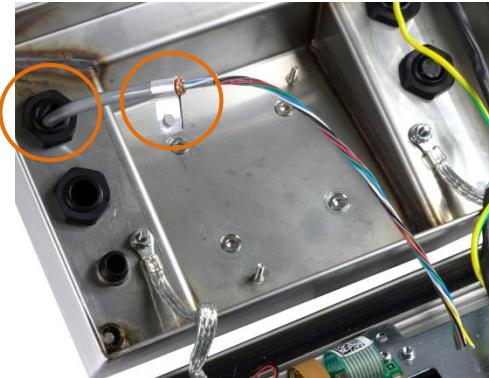

Figure 2-31: Load Cell Cable Entering IND236 Enclosure, with Chassis Ground Clip
1. The load cell cable is routed into the enclosure through the cable gland indicated in Figure 2-31.